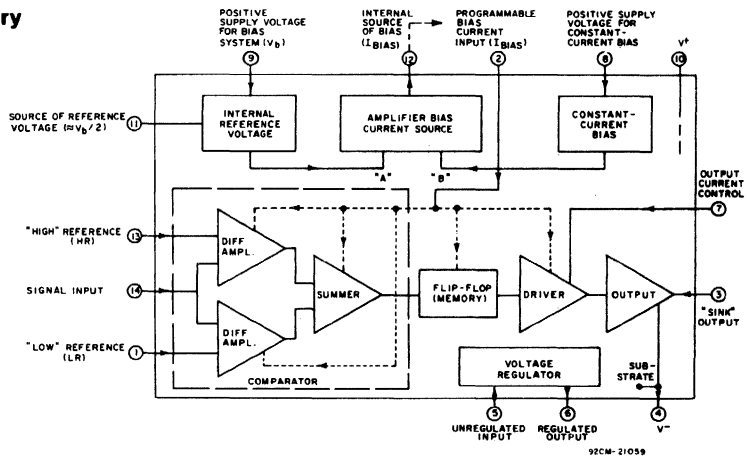

Fig. 1—Block diagram of CA3099E programmable comparator. (See page 3 for general description of circuit operation.)
RCA-CA3099E Programmable Comparator is a monolithic silicon integrated circuit designed to control high-operating-current loads such as thyristors, lamps, relays, etc. The CA3099E can be operated with either a single power supply with maximum operating voltage of 16 volts, or a dual power supply with a maximum operating voltage of ± 8 volts. It can directly control currents up to 150 mA. It operates with microwatt standby power dissipation when the current to be controlled is less than 30 mA. The CA3099E contains the following six (6) major circuit-function features (Figure 1):